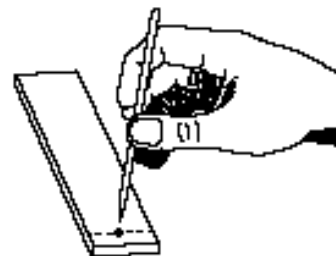

Figure 2. Spotting the TLC plate.
3. Spot the sheet at each mark with the appropriate known solution: AC = Acetaminophen, AS = Aspirin, CF = Caffeine, SA = Salicylamide, and RF = Reference (Figure 2). These known solutions can be found in small reagent bottles. Using a melting point capillary tube or a wooden toothpick to spot the plate by dipping the tip of the tube (or toothpick) in the known solution and then touching the tip against the sheet at the appropriate mark. The applied spot should be no bigger 1-2 mm. (Practice spotting on a piece of filter paper before spotting the